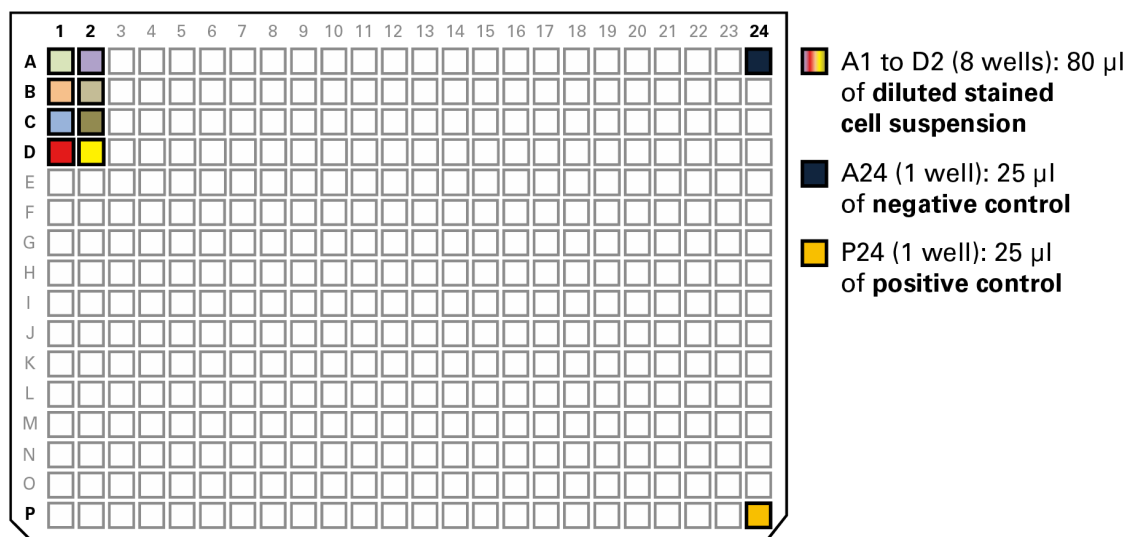

Figure 7. Setting up the 384-well source plate for dispensing cell samples and controls.
**The 1,000 µl total volume of diluted stained cell suspension is sufficient for distributing 80 µl of cell suspension in each of eight source wells (see Figure 7, below).
- Using a 100- μ l pipette tip, slowly and carefully load 80 μ l of cell suspension into wells A1, A2, B1, B2, C1, C2, D1, and D2 of a 384-Well Source Plate as indicated in Figure 7 (below).
- Add Positive and Negative Controls to the 384-Well Source Plate as indicated in the following steps and in Figure 7 (below):